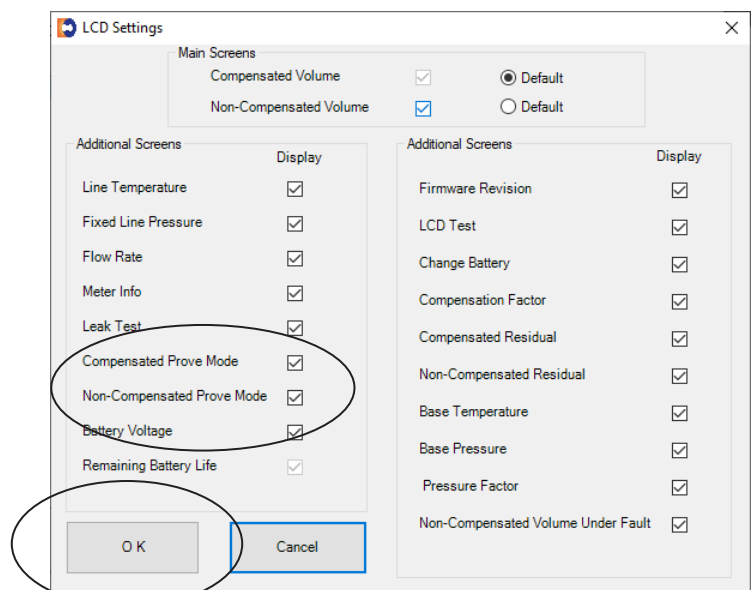

Figure 10.2 Example - LCD Settings screen in Dresser MeterWare
2. From the **LCD Settings** screen (Figure 10.2 Example), choose either **Compensated Prove Mode** or **Non Compensated Prove Mode**, or both, and then select OK to return to the **Configuration** screen.